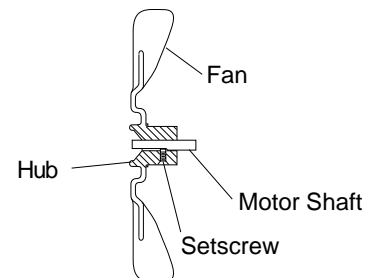

**Figure 8 - Fan and Motor Turned Around**
8. Turn motor and fan around. Place motor and fan into shell backwards. **Note:** Motor will go into shell first (see Figure 8).
9. Line up rear mounting holes in shell with first hole on each side of motor mount (see Figure 8). **Note:** When holes are lined up, fan should be outside of shell.